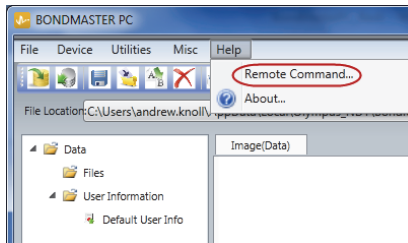

Figure 7-11 Selecting the Remote Command
- ◆ On the **Help** menu, select **Remote Command** (see Figure 7-11 on page 188).